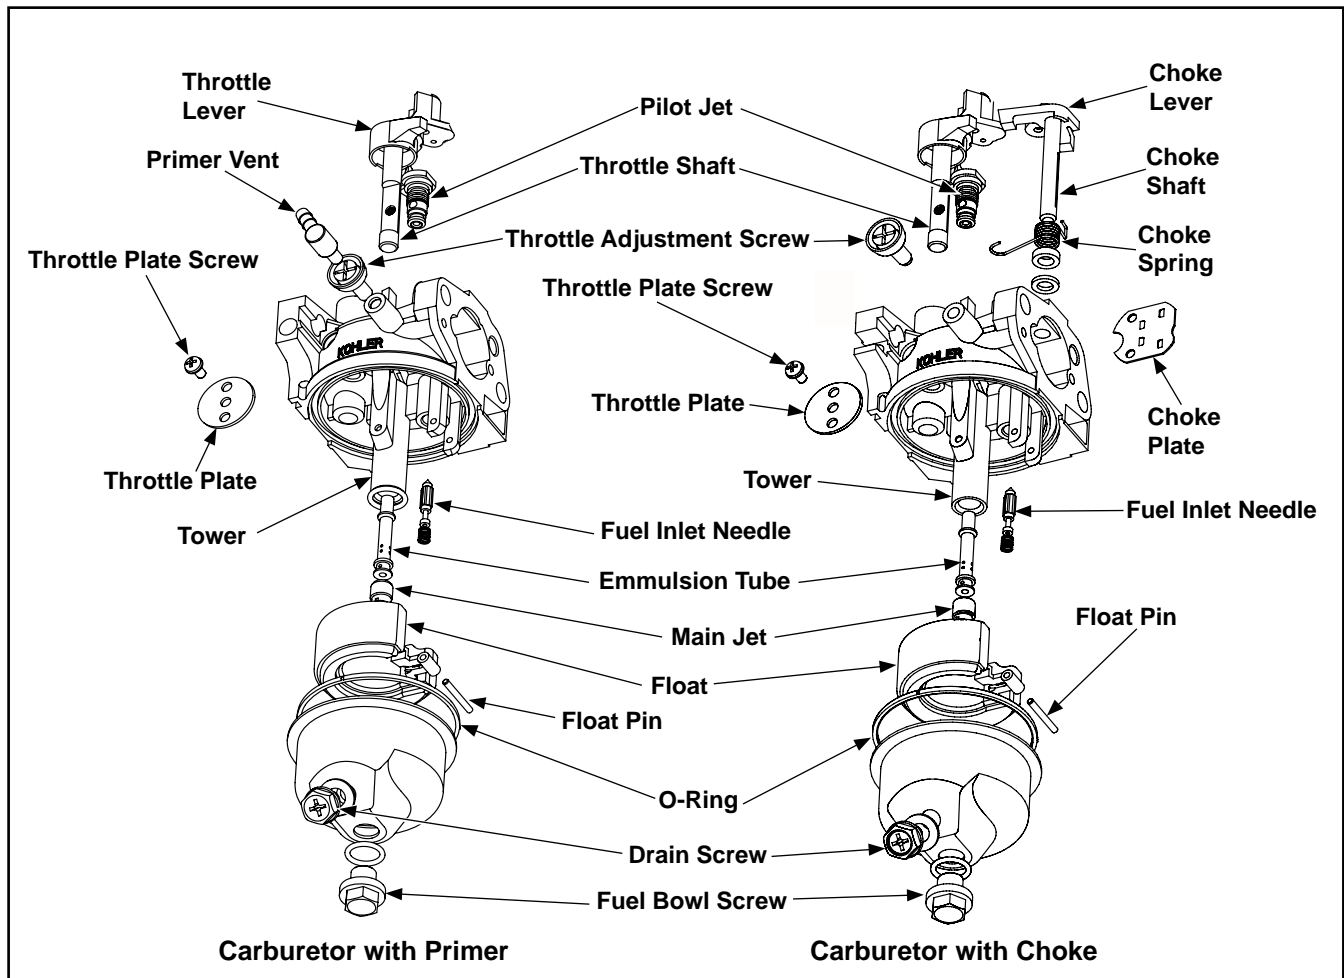

Figure 5-12. Carburetor (Exploded View).
1. Remove the fuel bowl screw, fuel bowl, O-ring and float pin. See Figure 5-12.
8. Install the fuel inlet needle, float, float pin, O-ring and fuel bowl. See Figure 5-12.